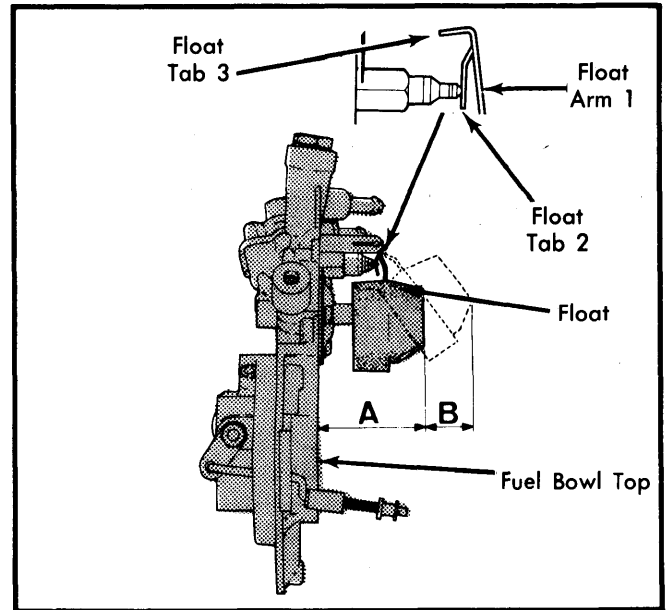

Fig. 1 Float Level and Drop (Travel) Adjustment (California Models)
2) Check dimension between bowl gasket and float, float level dimension "A" in Fig. 1, against specifications. To adjust bend float arm "1" until inner tab "2" resting against needle, is perpendicular to needle. Tab "3" should permit float travel, dimension "B", as noted in specifications.